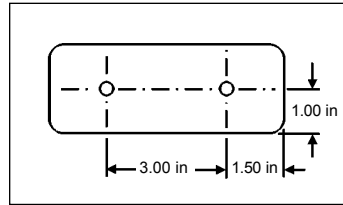

Figure 2: Base of Stand
1. Drill two holes into the work surface that are the same size and distance as the holes on the stand base. (Refer to Figure 2)